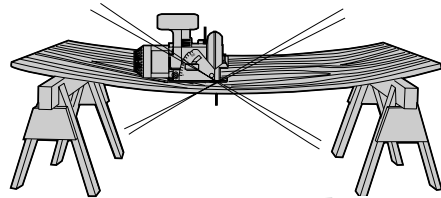

FIG. 9
FIG. 7 shows proper sawing position. Note that hands are kept away from cutting area. To avoid kickback, DO support board or panel NEAR the cut, (FIG. 8). DON'T support board or panel away from the cut, (FIG. 9).
- Cutting through material supported at the outer ends only (FIG. 9). As the material weakens it sags, closing down the kerf and pinching the blade.